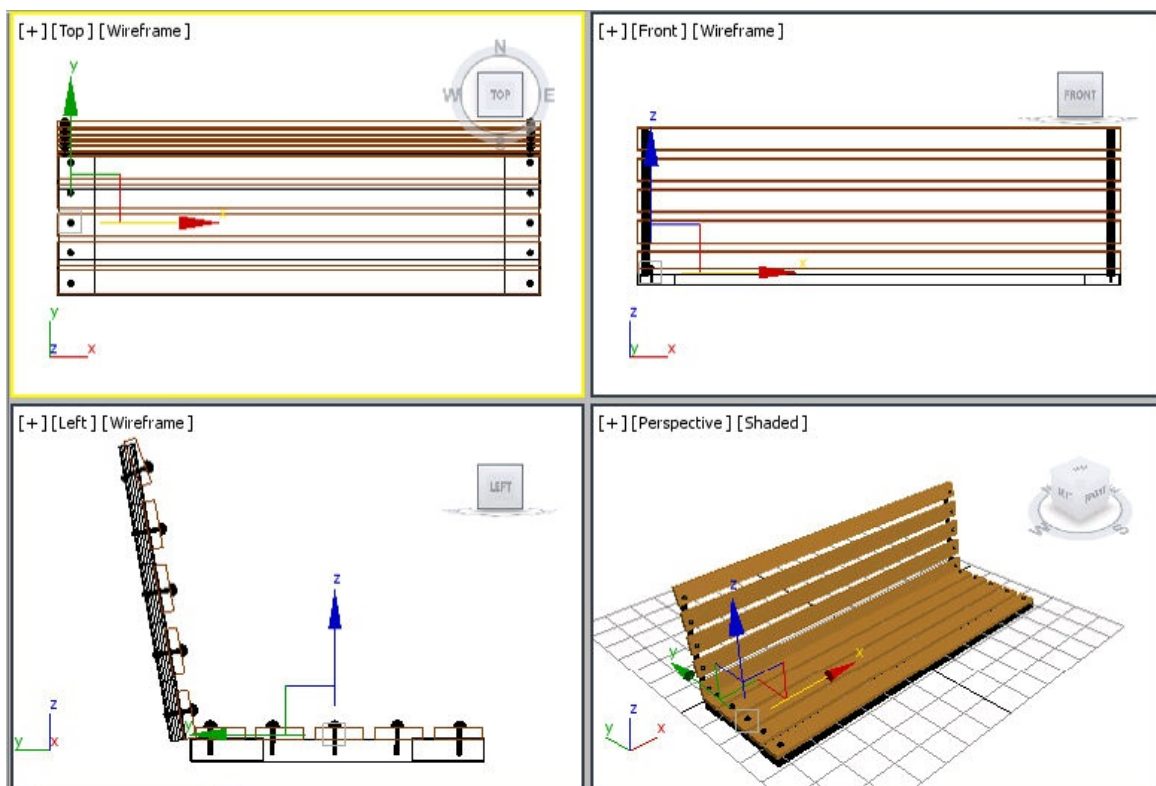

Figure 2-96 Alignment of left side seat rivets in viewports
15. Align *left side seat rivets* using the **Select and Move** tool in the viewports, as shown in Figure 2-96.